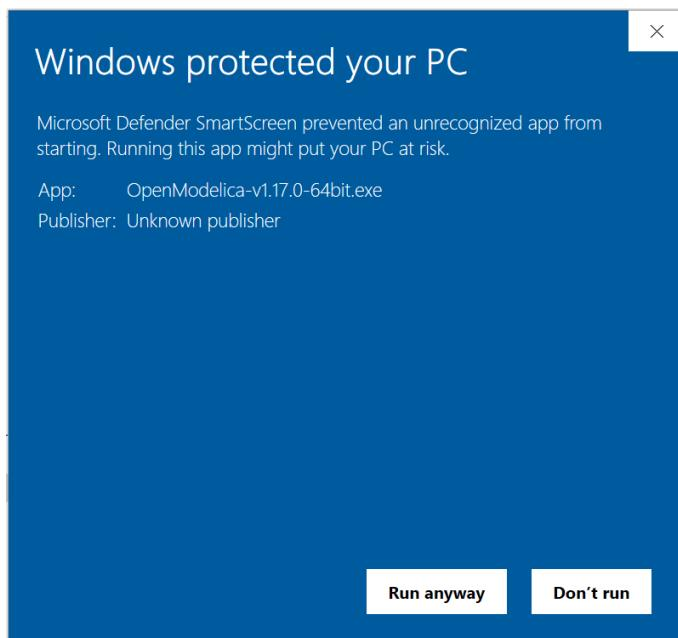

Figure 3.35: Allowing Microsoft Defender to run the executable file
5. Locate the executable file and double-click on it to begin the installation. After double-clicking on the executable file, you might get an alert on your screen (something like Windows protected your PC). If this happens, locate More info in this alert window and click on Run Anyway, as shown in Fig. 3.35 to continue with the installation. All the default parameters of the installation are acceptable.